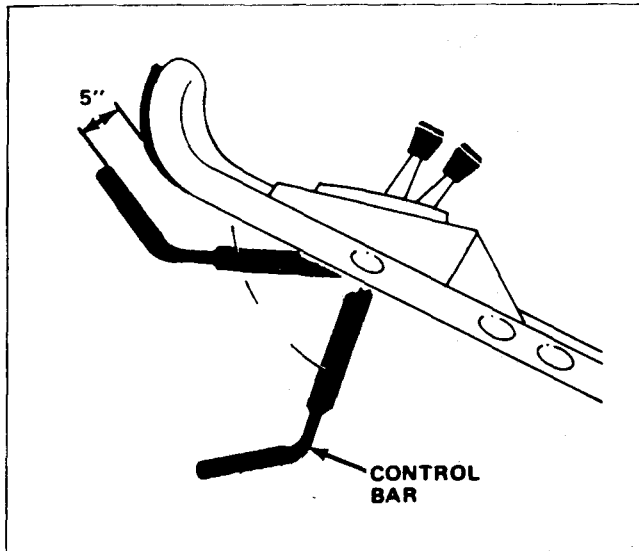

Figure 28
2. Push the control bar as shown to the lowest position. See Figure 28. This "latches" the mechanism prior to engaging the blade.
6. Push the control bar down to its lowest position, latching the mechanism. See Figure 28.